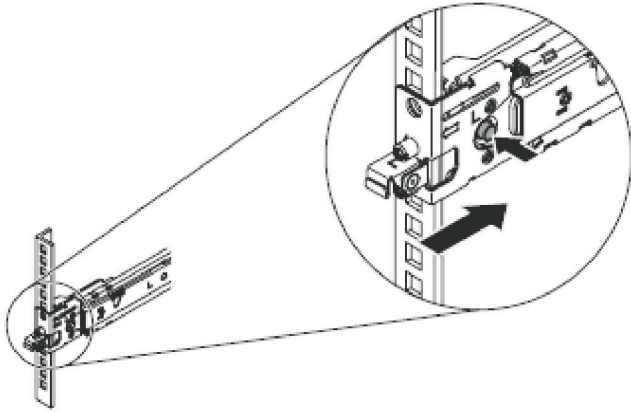

Figure 24. Installing the front end of the slide rails
5. Install the front end of the slide rails, as shown in Figure 24 on page 25.